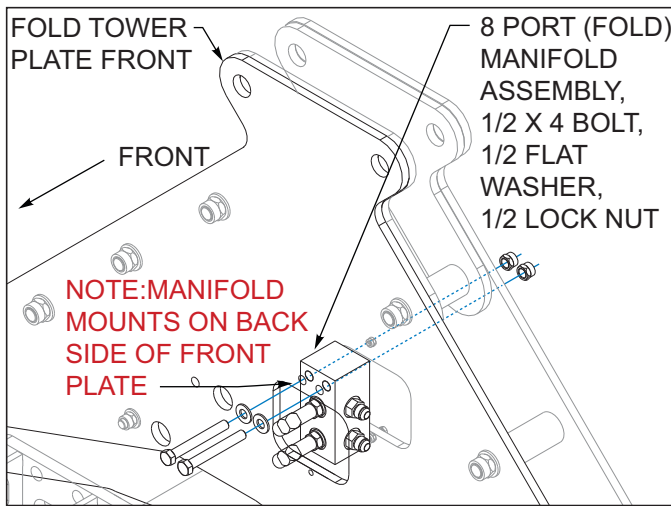

Figure 3-19: 8 Port Manifold Installation Rear
4. **Models 2411AFG-07-09** install the 8 port manifold to the front side of the wing stop plate on the center frame using 1/2 x 4 bolts, and 1/2 lock nuts **See Figures 3-19.**